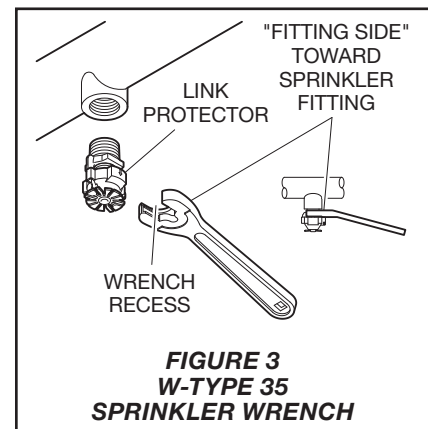

FIGURE 3
Note: Install the Model ESFR-17 Pendent Sprinkler only in the pendent position (Ref. Figure 3).
Step 2. Wrench-tighten the Model ESFR-17 Sprinkler using only the W-Type 35 Sprinkler Wrench (Ref. Figure 3), and by fully engaging (seating) the wrench on the sprinkler wrench flats (Ref. Figures 1 and 2).